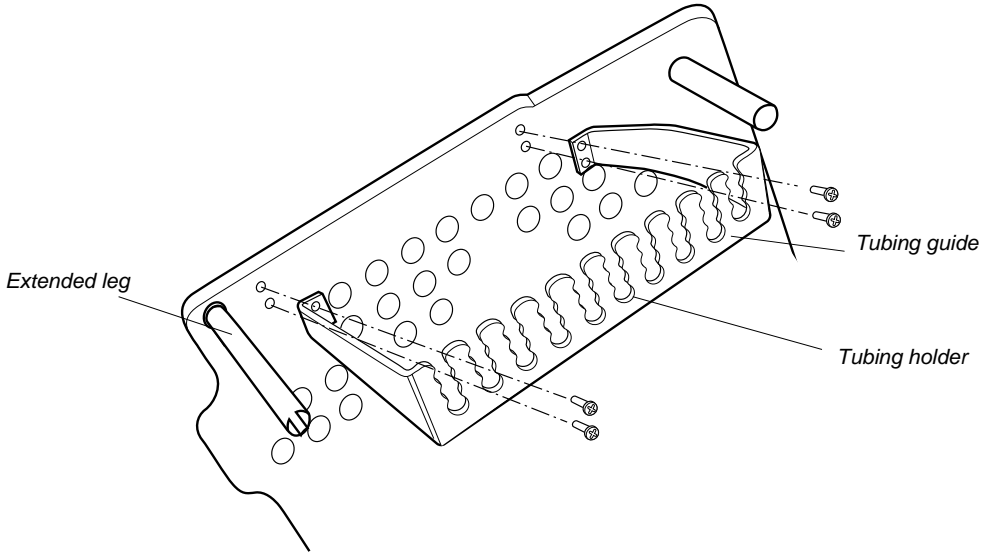

Figure 2-22. *Attaching the Tubing guide*
- 2 Connect the dispenser arm capillary (i.d. 1.0 mm, l = 800 mm) to the upper port at the accumulator using the finger-tight connector (1).
- 3 Fit a finger-tight connector to the swivel (2).
- 4 Thread the free end of the capillary through the finger-tight connector and the swivel. Allow the capillary end to stick out approximately 1-2 mm (3). Hold the swivel with the 8 mm key and tighten the connector.
- 5 Adjust the height of the dispenser arm to suit the height of the tubes or the bottles to be used (a distance between dispenser arm and the tip of the fractionation vessels of 0.5-1 cm is appropriate). Tighten the knurled screw (4).
- 2 Attach the Tubing guide to the rack as shown in Figure 2-22.